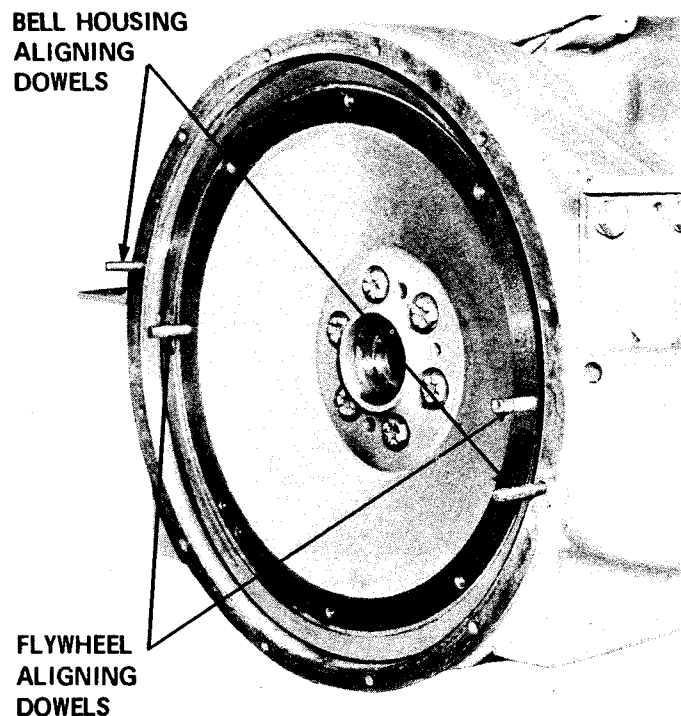

FIGURE 3-1 ALIGNING GENERATOR TO ENGINE WITH PILOT BOLTS
2. Make four pilot bolts by removing heads of bolts and starting them into the holes in the engine flywheel and flywheel housing on a horizontal line across the center of the mounting surfaces as shown in figure 3-1.